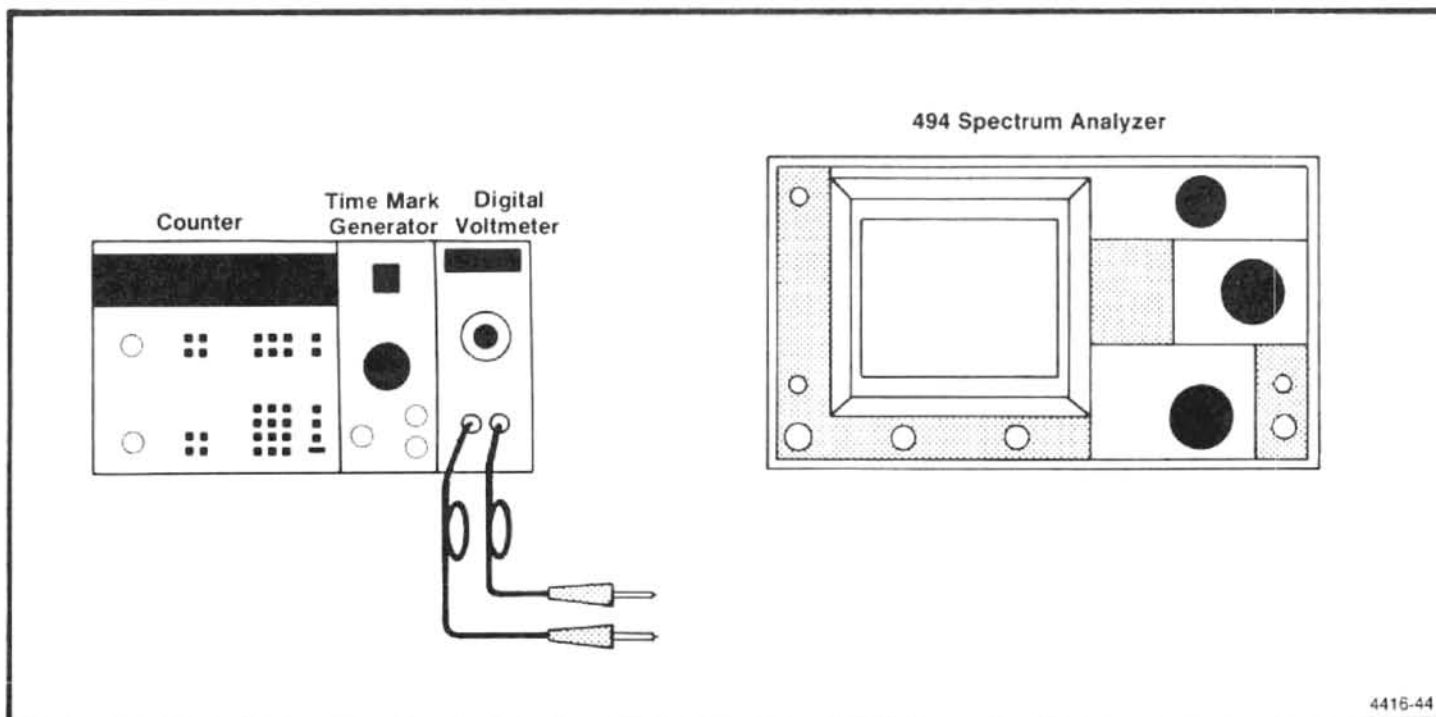

Figure 4-3. Test equipment setup for checking center frequency accuracy.
a. Test equipment setup is shown in Figure 4-3. Apply the CAL OUT signal through 1 dB and 10 dB step attenuators to the RF INPUT.
(1) Equipment setup is shown in Figure 4-3
(2) Apply the output of the comb generator to the RF INPUT. Set the FREQUENCY to 500 MHz and the FREQ SPAN/DIV to 210 kHz, via the Data Entry keyboard. Activate AUTO RESOLN, 10 dB/DIV, and set REF LEVEL to + 20 dBm
(3) Press COUNT→CF and change the RESOLUTION BANDWIDTH to 10 kHz.
(4) Note that the signal is within $\pm [(20\% \text{ of Span/Div or Resoln Bandwidth}) + (\text{N} \times 15 \text{ kHz})]$ or $\pm 57 \text{ kHz}$ (± 1.35 minor div) of the dot marker.
(5) Set the FREQUENCY to 1.0 GHz and RESOLUTION BANDWIDTH to 1 MHz.
(6) Press COUNT→CF and change the RESOLUTION BANDWIDTH to 10 kHz.
(7) Check — that the signal is within 57 kHz of the dot marker.
(8) Repeat the procedure to check accuracy at a center frequency of 1.5 GHz (the upper end of band 1).
(9) Using the above procedure and Table 4-2, check center frequency accuracy to 21 GHz for those span/div settings in which the 1st LO is not phase locked.